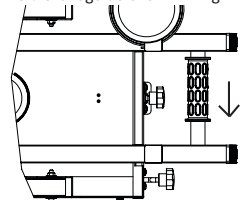

FIG. 1
1. Place grill upside down on the ground. Press in the push button and slide the pull handle to one side to unfold the legs as shown in Fig 1 and 2.